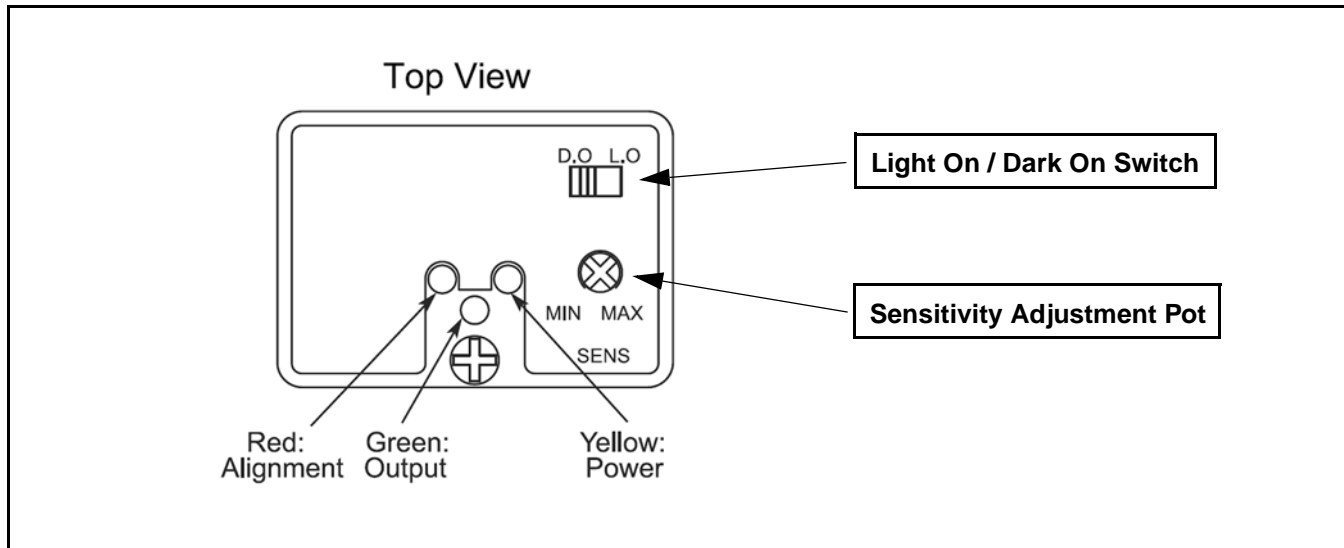

**Figure 18**
2. Wire and solder DC power to the two terminals of the provided DC power plug. Wire +VDC to the short lug (**Figure 18, item 1**) and -VDC to the long lug (**Figure 18, item 2**).